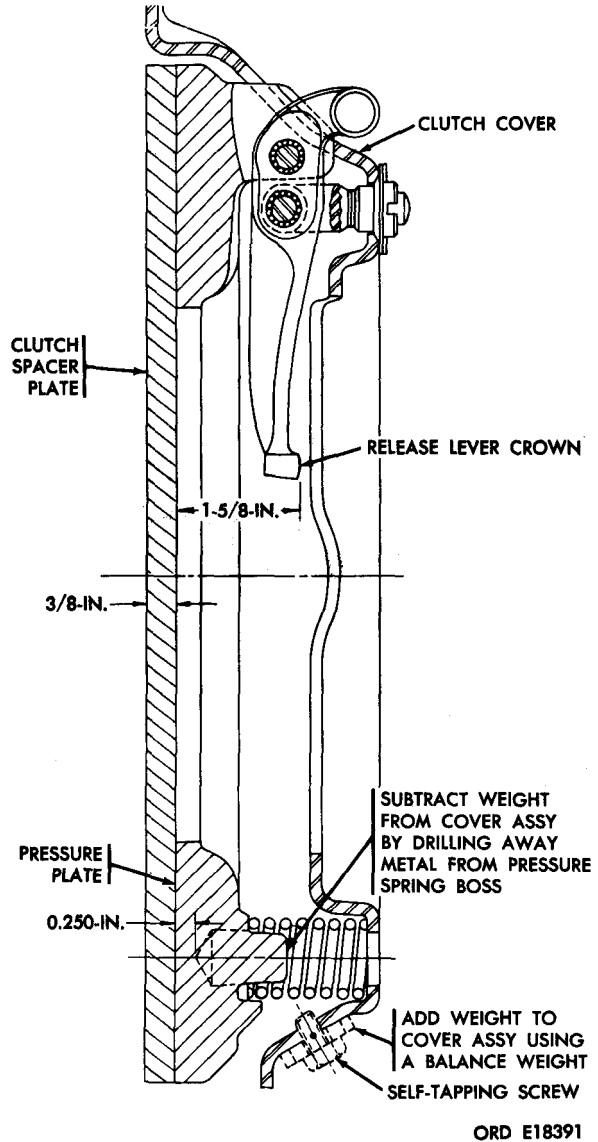

FIGURE 464. CLUTCH COVER BALANCING INSTRUCTIONS AND RELEASE LEVER ADJUSTMENT HEIGHT DIMENSIONS.
- (3) Figure 463. (A) Set depth micrometer to 1.625-inch and check distance between crown of release lever and surface of clutch spacer plate (fig. 464). (B) Turn release lever adjusting nut as necessary using face spanner wrench socket- 8390124, until crown of release lever contacts depth micrometer with micrometer anvil contacting clutch spacer plate. (C) Adjust remaining three release levers in the same manner.
b. Balancing by Drilling Holes. Install assembly on suitable balancing fixture and determine where and how much the assembly is out of balance. Remove the required amount of metal by drilling 0.687-inch diameter holes in center of pressure spring bosses on pressure plate (fig. 464). Drilled holes must not be less than 0.25- inch to face of pressure plate (fig. 464). Assembly must be balanced to within 1.0 ounce inches.
c. Balancing by Adding Weights. If balance cannot be obtained by drilling plate, drill 0.250 to 0.260-inch diameter hole or holes in clutch cover (fig. 464) and install balancing weights with 1/4- inch self-tapping screws. Maximum thickness of balancing weights must not exceed 0.219- inch per screw. Tighten screws to 15 pound-feet torque.